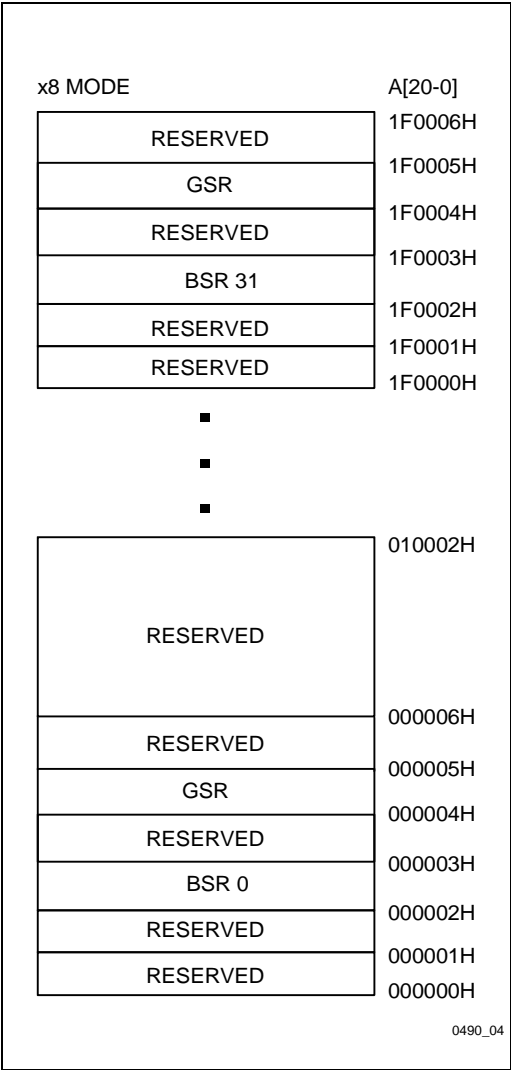

Figure 4. Extended Status Register Memory Map (Byte-Wide Mode)
1. RA can be the GSR address or any BSR address. See Figures 4 and 5 for Extended Status Register Memory Maps.